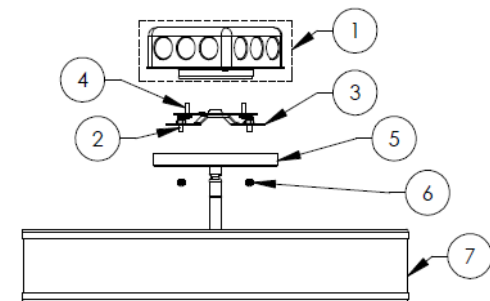

Fig 1
- Attach two 1/2" screws (2) with nuts to farthest points of the mounting strap (3) as shown in Fig 1. Install mounting strap (3) to junction box (1 – not provided) using two screws (4) to secure it.